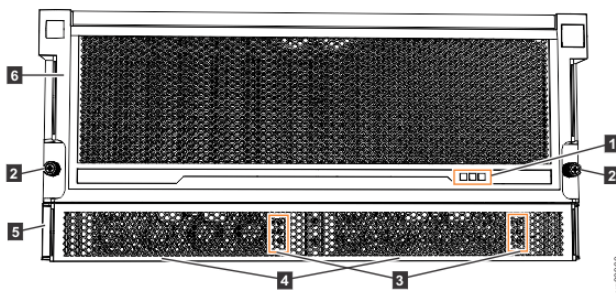

Figure 46. Features on the front of the 5U expansion enclosure
Important: Before you connect the power cables to the rear of the enclosure, always check that the expansion enclosure is secured in the rack. If needed, tighten the thumbscrews on the front of the enclosure (2 in Figure 46 on page 89) to ensure that the enclosure drawer does not roll open.
The 5U expansion enclosure has two power supply units (PSUs) that are accessible from the front of the enclosure (4 in Figure 46 on page 89). As the figure also shows, the PSUs are covered by the 1U fascia (5).
On the front of the enclosure, the indicators on the front display panel and each PSU (1 and 2 in Figure 46 on page 89) are also lit when the power is connected. See “High density expansion enclosure LEDs and indicators” on page 204 for information about the status that is provided by the indicators.